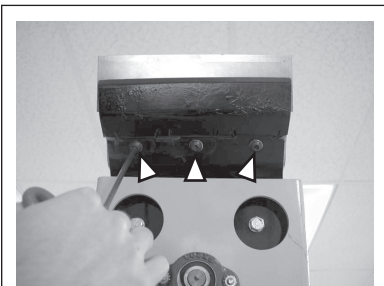

Figure 5
- Unplug machine from power source. Use the appropriate tools & techniques to remove the blade to minimize the chance of the wrench slipping. Tilt machine back on handle to access hardware on bottom of striker plate (Figure 5).
- Loosen but do not remove the three bolts shown in (Figure 5) from the bottom side of the striker plate.